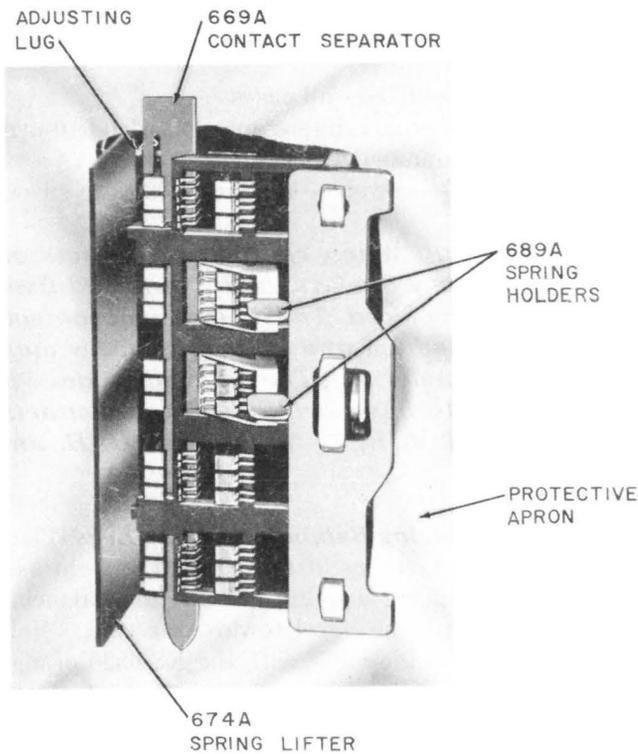

Fig. 4—287- and 288-Type Relay—Preparing Relay for Replacing Fixed Contacts in Left Vertical Row
3.22 Disengaging Balancing Spring Legs: Place the 674A spring lifter against the right side of the cover spring and the ends of the balancing spring legs with the bevel toward the card. Hold the card toward the right with the KS-6320 orange stick, and move the spring holder slightly to the left to disengage the balancing spring legs from the card. Then insert the spring lifter between the adjusting lugs and the cover lifter spring and balancing spring legs until the outer edge of the lifter is in line with the outer edge of the cover spring. Push the card inward against the core plate using the orange stick. Figure 4 shows the 674A spring lifter in position.
on the orange stick. Keep the separator vertical so the movable contact springs will remain in their proper horizontal positions, and move the separator downward or upward, as required, only far enough to separate all contacts in the 3-position group below the group in which the fixed contact is to be replaced. However, if the card is pushed forward due to the separator touching adjacent apparatus, insert the separator sufficiently to clear the apparatus. Figure 4 shows the separator in position for replacing fixed contacts in the left vertical row.
3.28 If the top of bottom fixed contact of a 3-position group is to be replaced, insert a second 689A spring holder, as covered in 3.27, in the 3-position group adjacent to the contact to be replaced. Figure 4 shows two 689A spring holders in position.